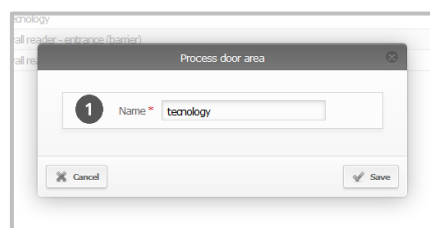

Figure 80: Renaming areas
- Enter the new area designation in the **Name** field of the dialogue window (Figure 80: Renaming areas) and click **Save** to confirm.